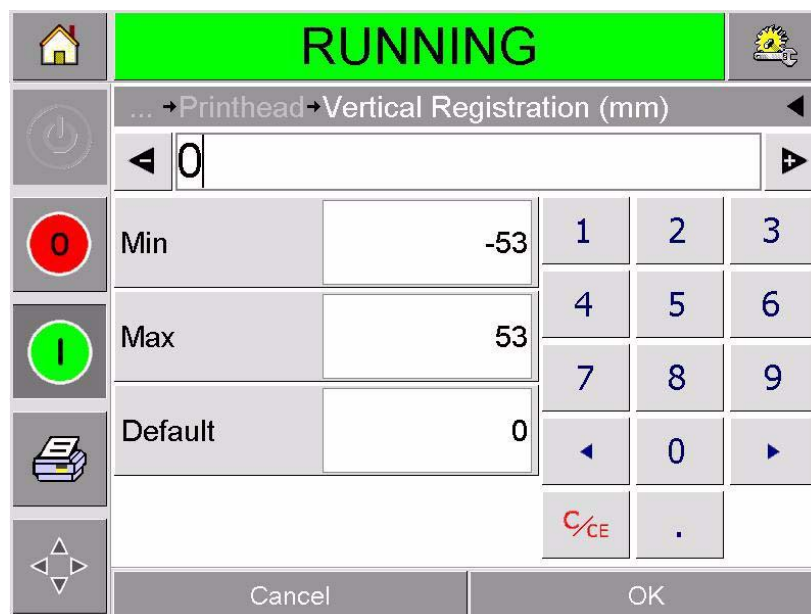

Figure 4-14: Vertical Registration Settings
- 5 Use the + or - buttons (Figure 4-14 on page 4-16) to make small adjustments in the parameter settings.